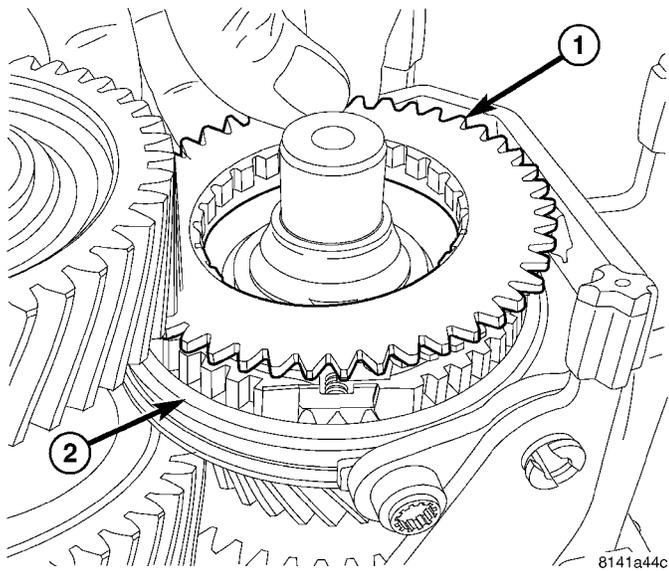

Fig. 107 FIFTH GEAR BLOCKER RING
(9) Install fifth gear (Fig. 107) blocker ring (1) on 5-6 synchronizer hub (2). Then hold blocker ring and center synchronizer sleeve.